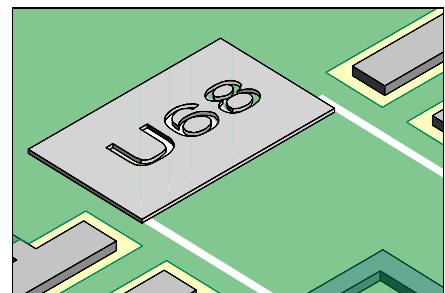

Figure 1: Replace legend using a stencil.
3. Select the appropriate stencil or have a special stencil made up. (See Figure 1).